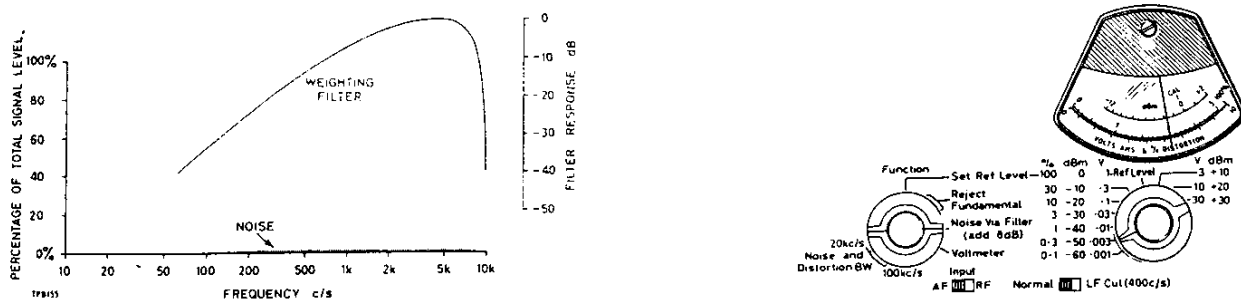

Fig. 2.7 Tone Off with Weighting Filter
(7) To measure the weighted noise set the FUNCTION selector to NOISE VIA FILTER. This introduces a filter - see Fig. 2.7 - with characteristics as defined by the CCIF weighting network for broadcast systems. However, the filter used has an extra loss of 8 dB compared to the CCIF curve and it is necessary therefore to add 8 dB to the meter reading to obtain the true weighted noise level.